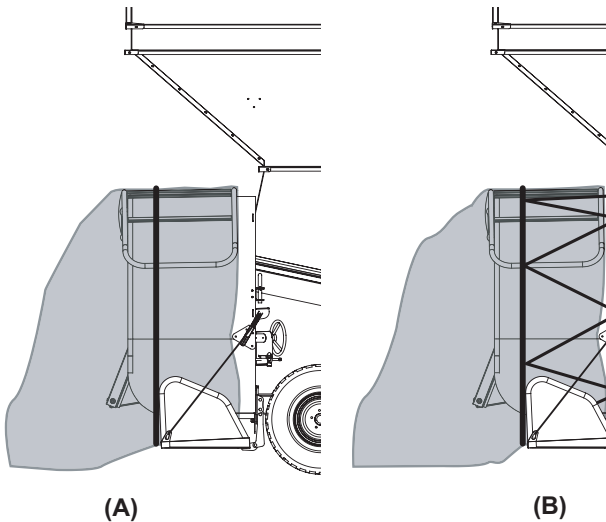

Figure 18 – Arrangement of elastic ropes
11) Position the elastic rope as an accessory so that it holds the grain bag mounted on the silo tunnel. This 16-mm (5/8") diameter rope, which helps to control the unfolding of the grain bag, hooks into the eyelets located at the bottom of the tray as shown in Figure 18 (A). The 8-mm (5/16") diameter rope used for holding the elastic rope should be hooked into the eyelets located on the silo tunnel, running round the elastic rope between one ring and the next. This retaining rope should end up arranged in a zigzag as shown in Figure 18 (B).